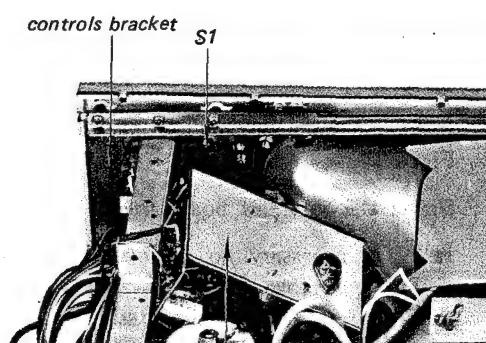

Fig. 2-24.
6. Remove a screw labeled S1 in Fig. 2-24.
15. Remove a screw labeled S1 in Fig. 2-24.